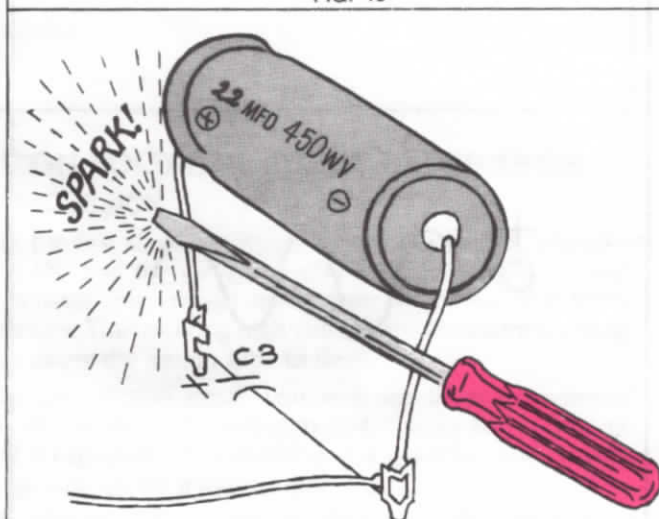

FIG. 21
- m. To prevent a possible shock, discharge capacitor C3, using an insulated screwdriver as shown in Figure 21.